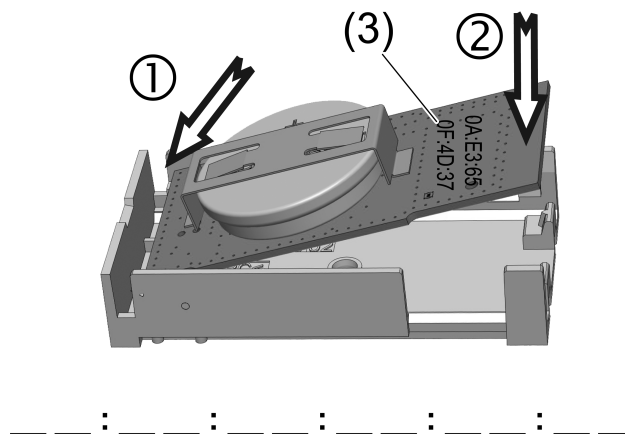

Figure 5: Engaging the circuit board
- Note MAC address (3) (Figure 5). This address is required for assignment to the cover.
- Insert the circuit board in the housing base. Firstly, push the circuit board up to the front side of the housing and then push the rear section of the circuit board downwards (Figure 5).